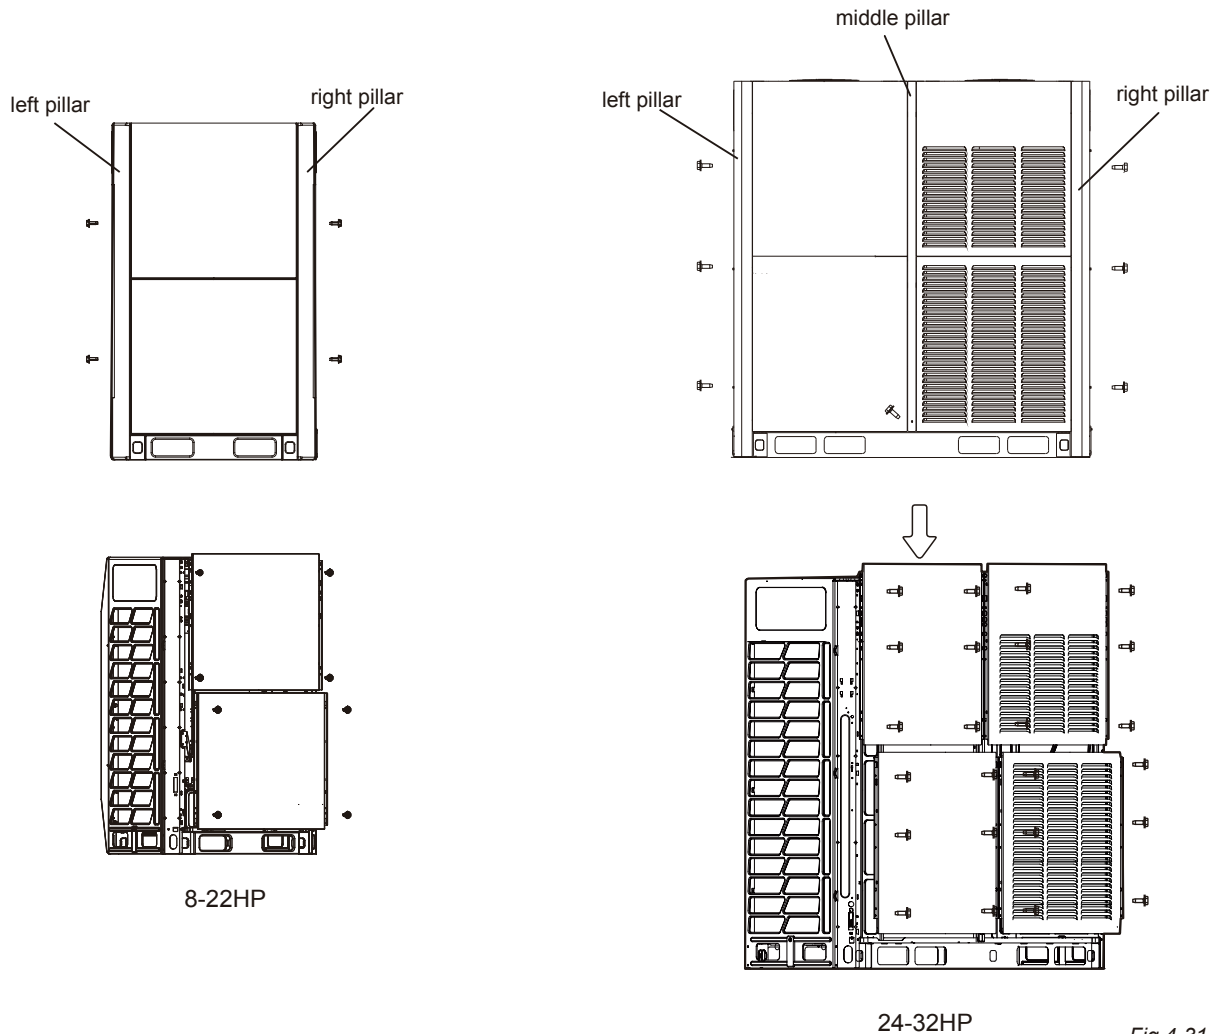

Fig.4-31
1. 8HP-22HP: Dismantle the left and right pillars: Remove the 4 screws from the left and right pillars. (Fig.4-31). Rotate both and then lift them 2 mm (Fig. 4-32) to remove them; 24HP-32HP: Dismantle the left, right, and middle pillars: Remove the 6 screws from the left and right pillars. (Fig. 4-31). (Fig. 4-32) to remove them; 24HP-32HP: Dismantle the left, right, and middle pillars: Remove the 6 screws from the left and right pillars. (Fig. 4-31).
2. Dismantle the upper panel: Remove 4 screws (8HP-22HP) or 6 screws (24HP-32HP) from the upper panel on left and right sides (Fig. 4-31 and Fig.4-32). Then lift the panel 3mm to remove it.
3. Dismantle the lower panel: Remove 4 screws (8HP-22HP) or 6 screws (24HP-32HP) from the lower panel on left and right sides (Fig. 4-31 and Fig.4-32) and then lift the panel 3 mm to remove it.